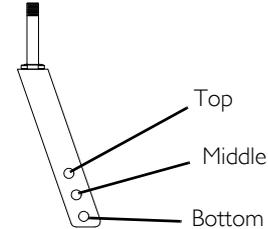

FIGURE 8 Changing Seat-to-Floor Height
For this procedure, refer to FIGURE 8 on page 62.
1. Refer to the chart in FIGURE 8 on page 62 to determine mounting positions for front casters/forks and rear wheels for the desired obtainable seat-to-floor height: